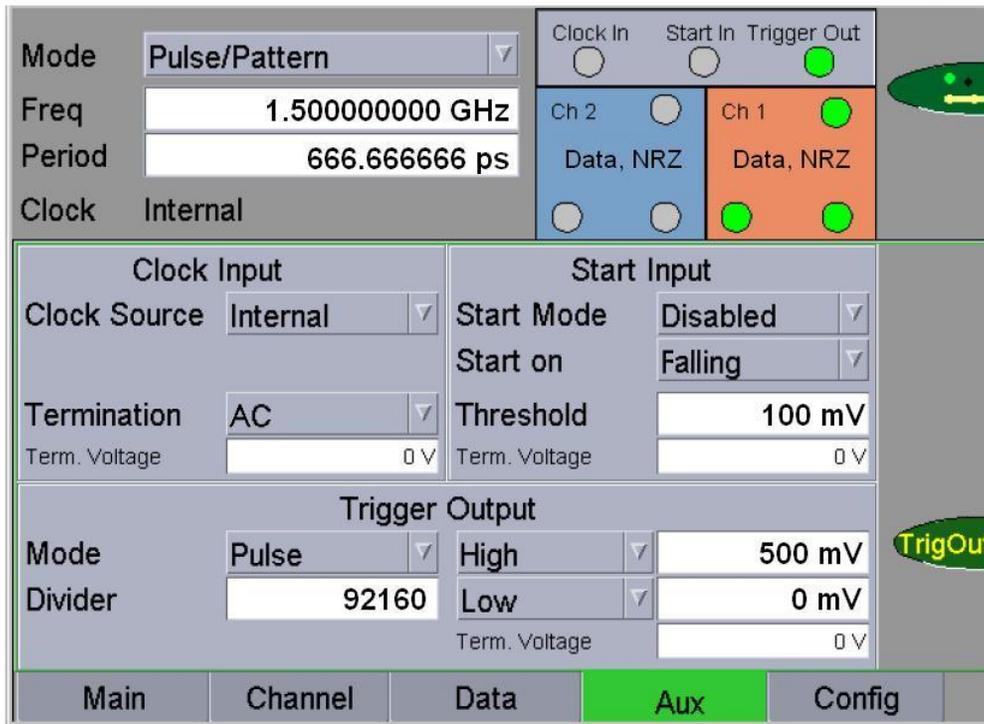

Figure F-2: 81134A Aux Screen Showing Proper Test Settings
- Under the **AUX** screen of the **81134A**, set all values as shown in Figure F-2, below.